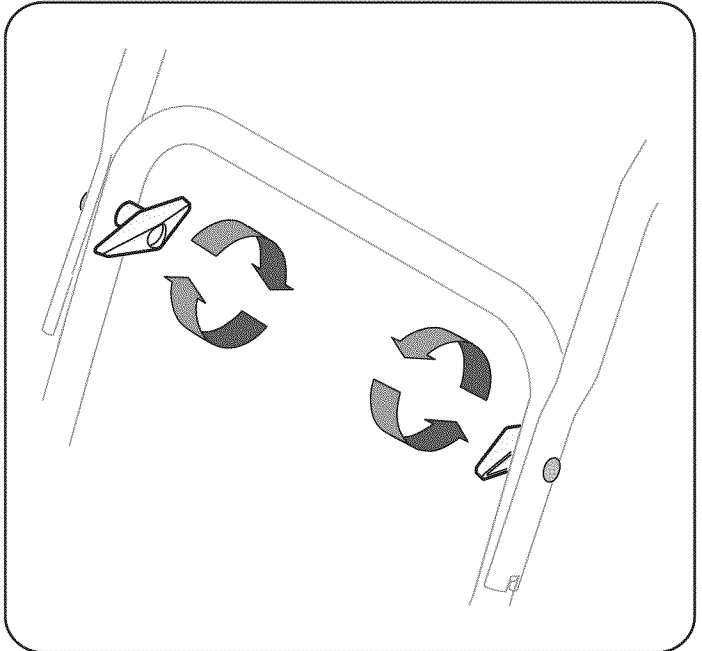

Figure 2
3. Secure the handle by tightening the plastic wing knob located on both the left and right sides of the handle. See Figure 2. Remove and discard any rubber bands, if present. They are for packaging purposes only.